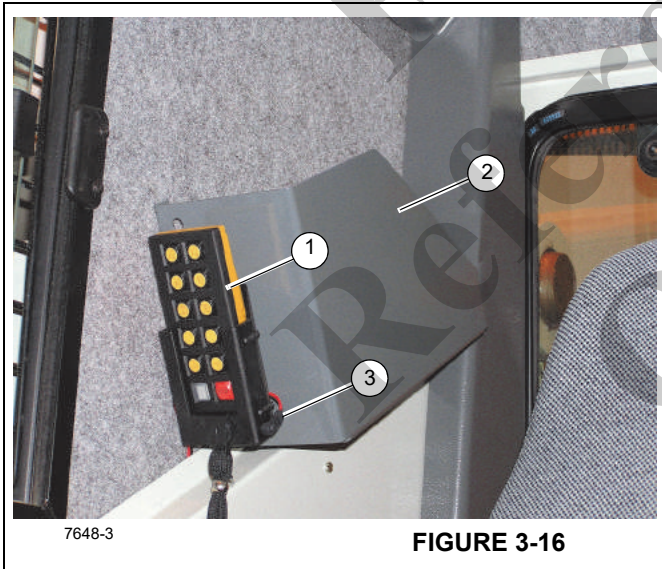
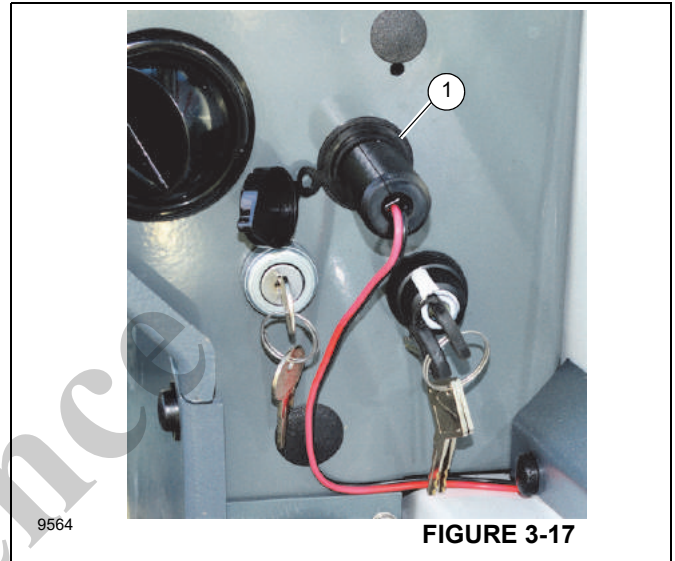

FIGURE 3-16
FIGURE 3-17
The standard Remote Control (1, Figure 3-16) is a palm size remote control and is shipped with each crane as standard equipment. This remote control has limited functions as described in the following information; it does not allow full remote control of the crane.
When the standard Remote Control (1) is in the stowed position as shown in Figure 3-16 the remote control power cord (3) should be plugged into the remote control stow bracket and the other end into the 12V receptacle (1, Figure 3-17) on the cab control panel. This will keep the two AA rechargeable batteries used to power the Remote Control charged.